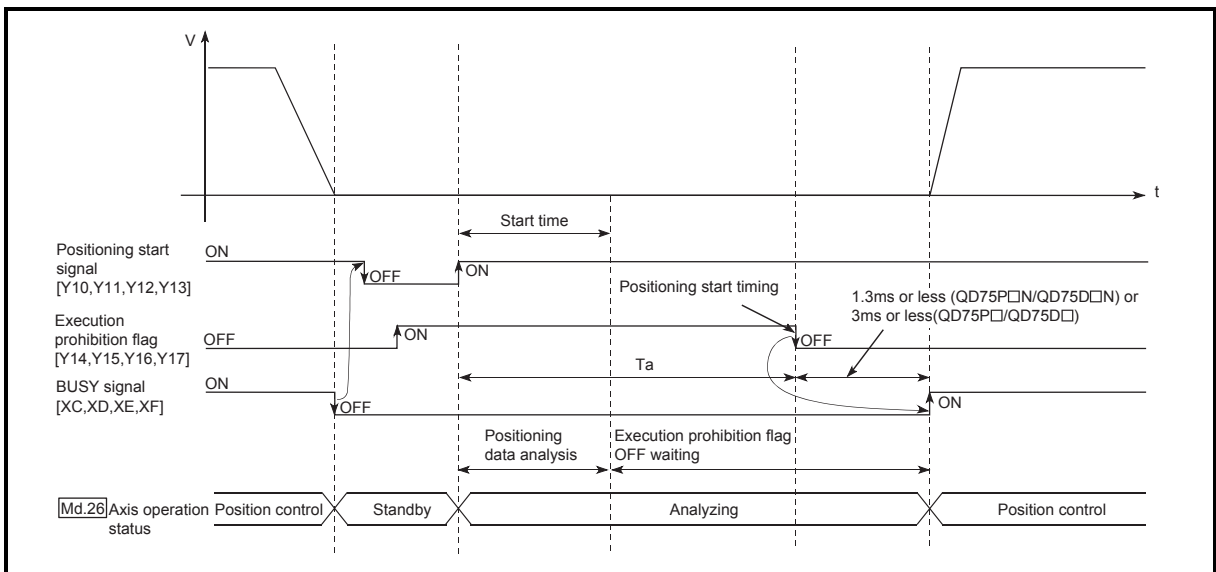

Fig. 12.52 Operations of pre-reading start function
The pre-reading start function is performed by turning ON the positioning start signal [Y10, Y11, Y12, Y13] with the execution prohibition flag [Y14, Y15, Y16, Y17] ON, or by executing the dedicated instruction (ZP.PSTRT1, ZP.PSTRT2, ZP.PSTRT3, ZP.PSTRT4). However, if positioning is started with the execution prohibition flag ON, the positioning data is analyzed but pulse output is not provided. While the execution prohibition flag is ON, " [Md.26] Axis operation status" remains unchanged from "5: Analyzing". Pulse output starts within 1.3ms (QD75P□N/QD75D□N) or 3ms (QD75P□/QD75D□) after the execution prohibition flag [Y14, Y15, Y16, Y17] has turned OFF, and " [Md.26] Axis operation status" changes to the status (e.g. "Position control", "Speed control") that matches the control system. (Refer to Fig. 12.52)
Hence, pre-reading of the next data starts during the stop time  $T_w$ . If  $T_w$  is a certain period of time, the analysis of the next data is completed during that period, and the system is placed in an execution prohibition flag OFF waiting status. Therefore, replacing the positioning start timing at ② with the execution prohibition flag OFF allows the time from when the axis operation request turns ON until pulse output starts to be reduced to within 1.3ms (QD75P□N/QD75D□N) or 3ms (QD75P□/QD75D□) in the sequence program. (Refer to Fig. 12.52.)
- (1) The time required to analyze the positioning data is up to 7ms.
- (2) After positioning data analysis, the system is put in an execution prohibition flag OFF waiting status. Any change made to the positioning data in the execution prohibition flag OFF waiting status is not reflected on the positioning data. Change the positioning data before turning ON the positioning start signal.
- (3) The pre-reading start function is invalid if the execution prohibition flag is turned OFF between when the positioning start signal has turned ON and when positioning data analysis is completed (Ta < start time, Ta: Refer to Fig. 12.52).
- (4) The data No. which can be executed positioning start using "Cd.3 Positioning start No." with the pre-reading start function are No. 1 to 600 only. Performing the pre-reading start function at the setting of No. 7000 to 7004 or 9001 to 9004 will result in an error "Outside start No. range" (error code: 543).
- (5) Always turn ON the execution prohibition flag at the same time or before turning ON the positioning start signal. Pre-reading may not be started if the execution prohibition flag is turned ON during Ta after the positioning start signal is turned ON. The pre-reading start function is invalid if the execution prohibition flag is turned ON after positioning start (pulse output) with the execution prohibition flag OFF. (It is made valid at the next positioning start.)